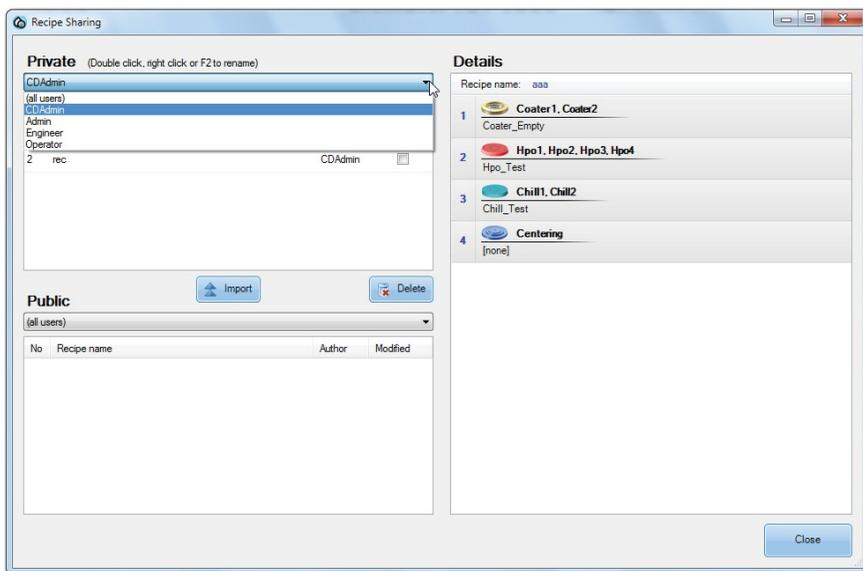

FIGURE 3-34: Sharing a user's recipes
3. Click **Share**. The Share Recipes dialog box opens. See Figure 3-34.